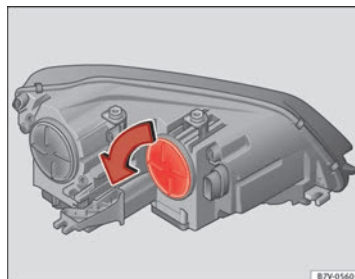

Fig. 207 In the engine compartment: Turn signal cover
3.	Rotate the cover ⇒ Fig. 207 in the direction of the arrow and remove it.
8.	Rotate the cover ⇒ Fig. 207 in the opposite direction to the arrow as far as it will go.